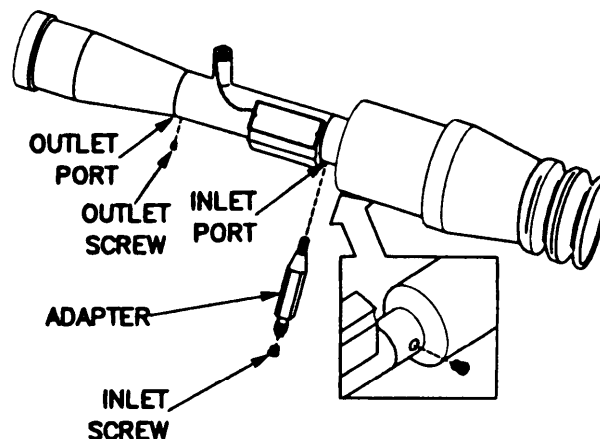

Figure 3-78 M134 Straight Telescope
- (1) Perform purging and charging procedure para 2-5.a.
- (2) Relief valve should open between 3-10 psig.
- (3) Purge instrument for 5 minutes.
- (4) Relief valve should close between 1-5 psig.
- (5) Leak test for a minimum of 5 minutes.
b. M134 Straight Telescope (fig. 3-78).